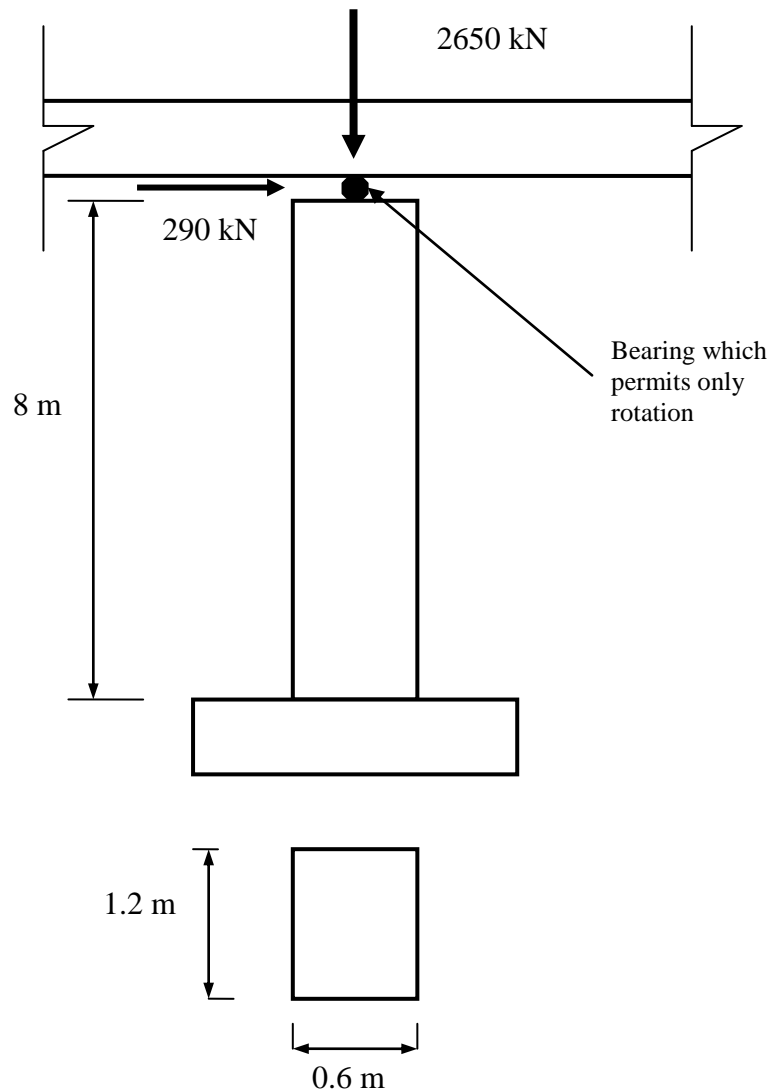

Figure 3.0 : Bridge Column
3. (b) Figure 3.0 shows a reinforced concrete bridge column. The loads indicated are design loads at the ultimate limit state. Design reinforcement for the column, at the ultimate limit state, if the characteristic strengths of the reinforcement and concrete are 425 N/mm^2 and 40 N/mm^2 respectively. Assume that the articulation of the deck is a) such that sidesway is prevented and b) such that sidesway can occur.